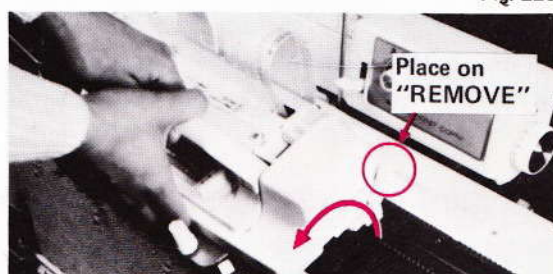

Fig. 224
2. Set clutch on 'remove' (fig. 224).